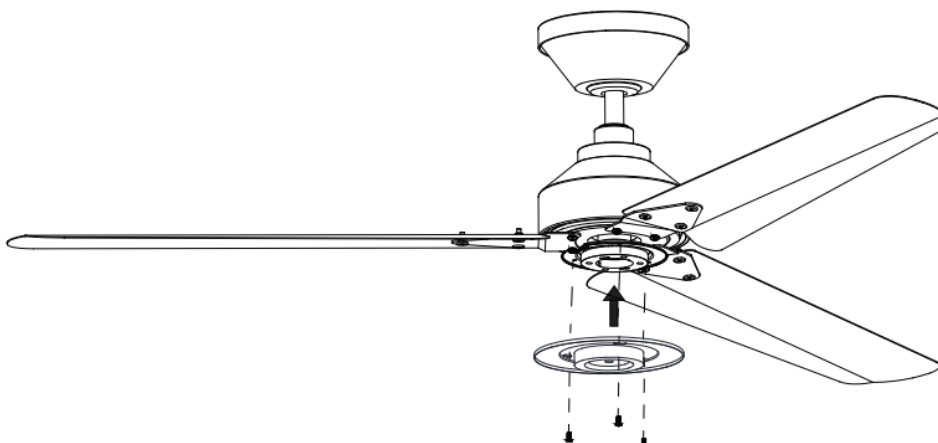

Fig. 12
2. Install the adapter onto the fan assembly bracket by tightening the 3 screws. (Fig. 12)